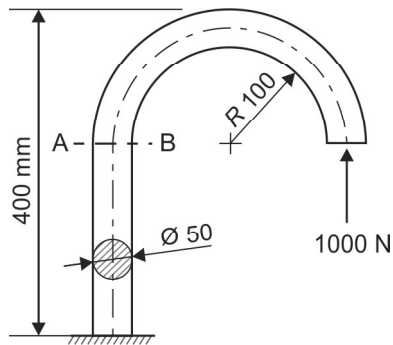

Fig. M1.22
37. Determine the maximum tensile stress and maximum shear stress of the component shown in Fig. M1.22 and indicate the location. (10 Marks)